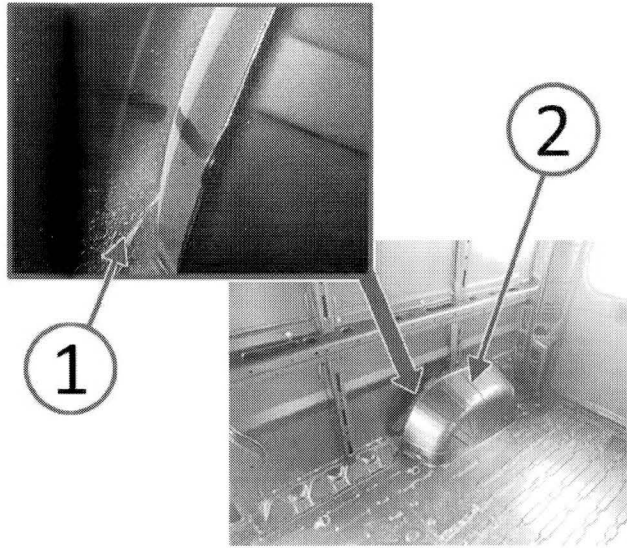

Fig. 1 Foreign Material Inspection
1. Inspect the area around both rear wheelhouses (2) for foreign material such as salt spray, dust, or mud (1) (Fig. 1).
2. Was foreign material (1) found to be entering the cargo area around one or both rear wheelhouse? (Fig. 1)